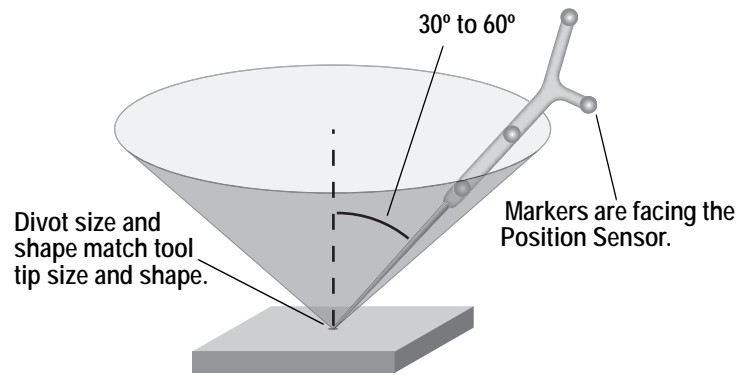

Figure 2-1 Pivoting Technique
5. Pivot the tool in a cone shape, for about 20 seconds, at an angle of 30° to 60° from the vertical, as shown in Figure 2-1 on page 10.